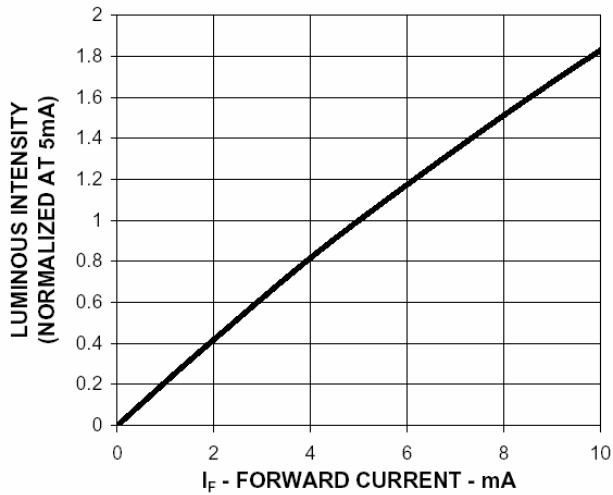

Figure 4. Luminous intensity vs. forward current.
- Derate linearly as shown in Figure 4.